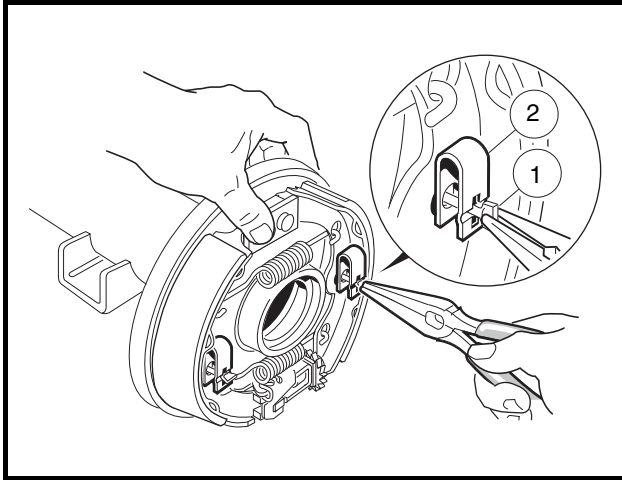

Figure 6-4 Rotate Clip Retainer
6. Use needle nose pliers to rotate the clip retainer pin (1) 90° to remove the shoe retainer clip (2) on each shoe (**Figure 6-4, Page 6-3**). **See following CAUTION.**